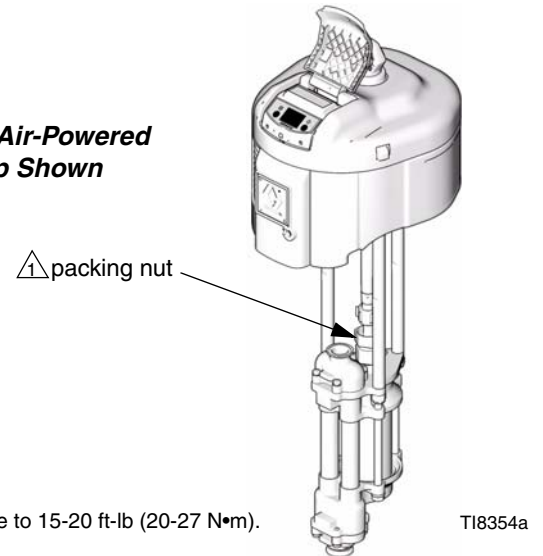

FIG. 4
Check the packing nut (21) tightness every few days at startup and then weekly throughout the life of the throat seal. The packing nut should be tight enough to stop leakage, but no tighter. See FIG. 4.
If you see excessive leaking at the throat, tighten the packing nut (21), see FIG. 4. If this does not fix the problem, replace the throat packings, piston rod, or both. See manual 311690.